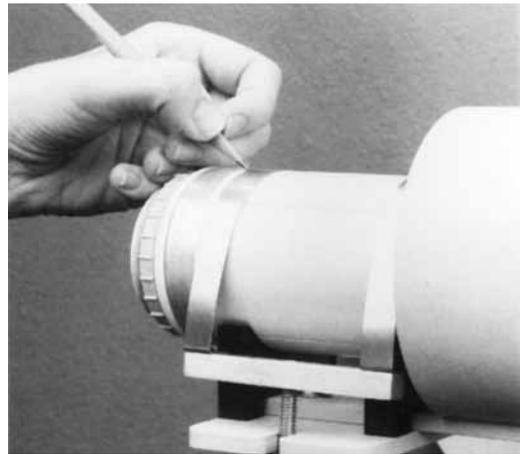
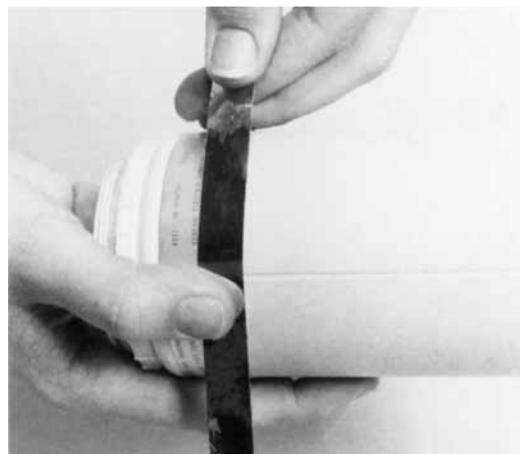

Figure 27
Figure 28
**IMPORTANT:** Before removing the cone from the fixator/collimator, mark the exact spot where the rearmost cone strap wraps around the cone (Figure 27). Remove the cone and attach the foil strip provided to mark the proper placement of the cone in the fixator/collimator (Figure 28). You will need this landmark in order to re-establish the proper location of the cone when you set up for future cephalometric exposures.